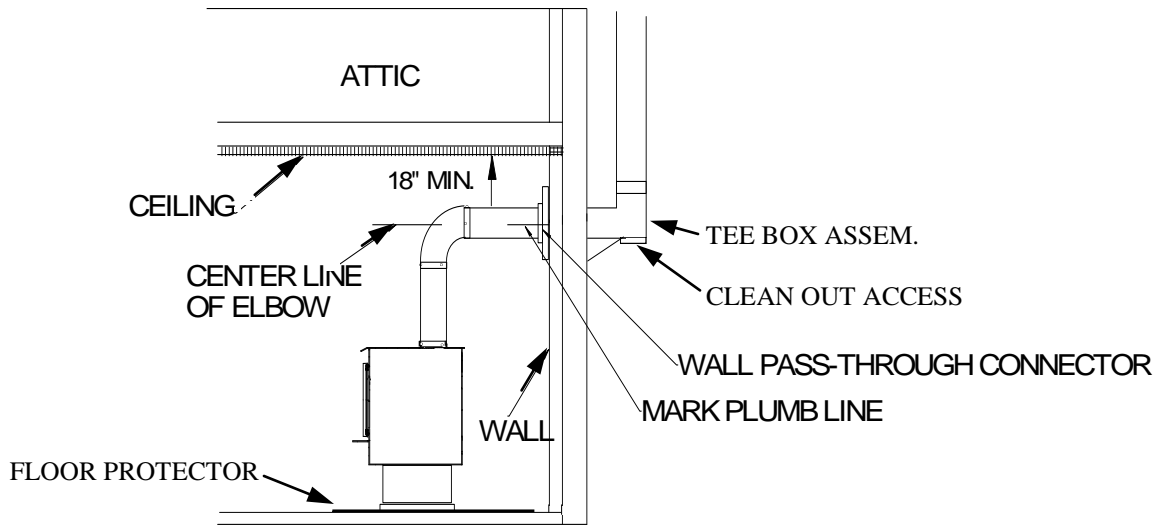

Figure 6
1. Mark plumb line on wall directly behind center of heater. (See Figure 6).
3. Measure up so there will be at least 1/4" rise per foot of horizontal connector pipe, maintaining clearances to ceiling as noted in (Figure 6 Page 15). This will give you center of hole for chimney penetration.